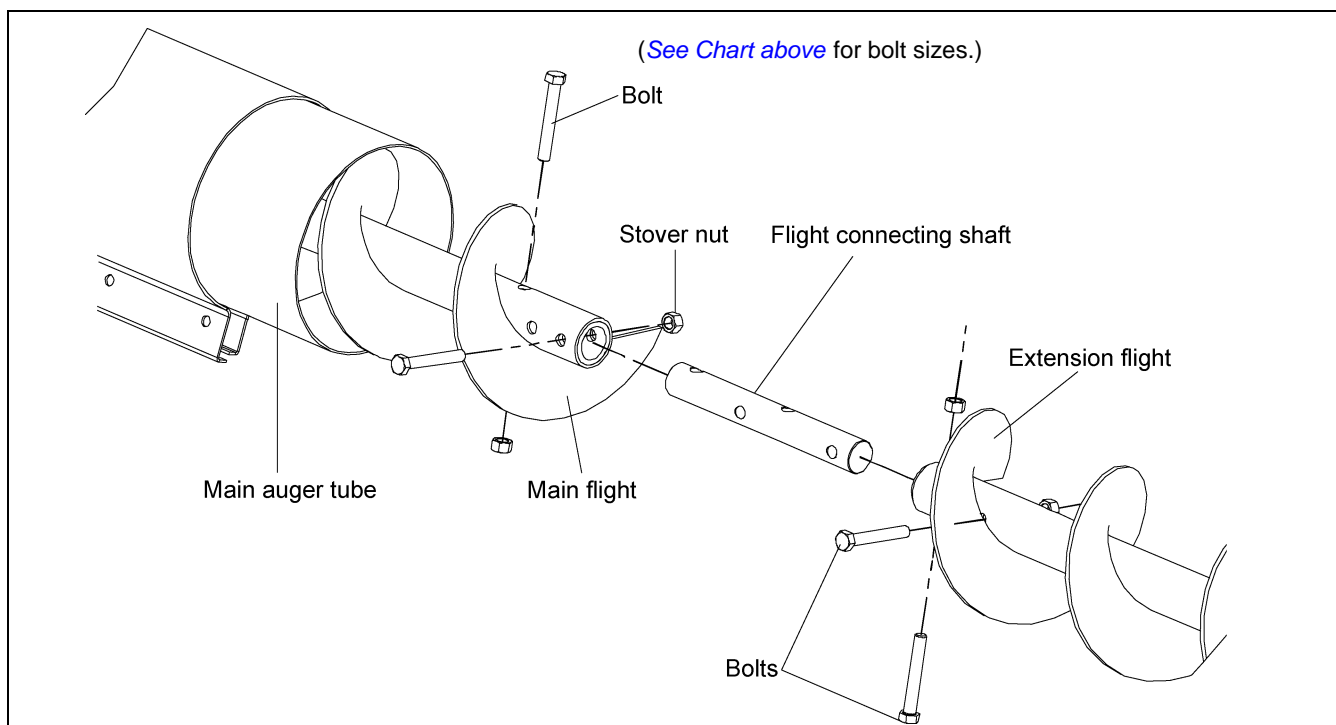

Figure 4M
2. Slide the flight connecting shaft into the main section of flight and bolt together with grade 8 hex bolt and stover nut. Next slide extension flight onto connecting shaft and bolt together using proper grade 8 bolts and stover nuts. (See Chart below and Figure 4M.)